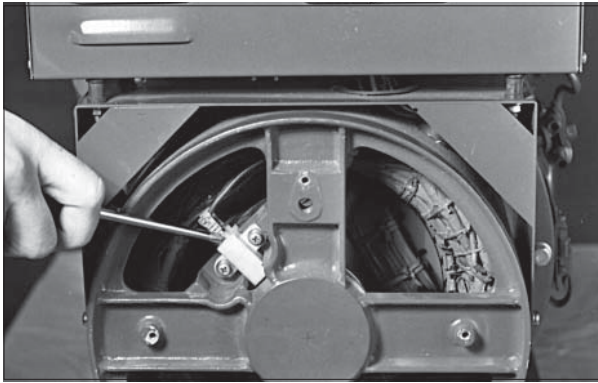

**Figure 32:** Brush Pigtail.
- b. If the brushes are excessively worn as to expose the pigtail (Figure 32), sparking will occur at the surface of the slip ring, causing surface damage. Therefore, periodic inspection of the brushes is important.